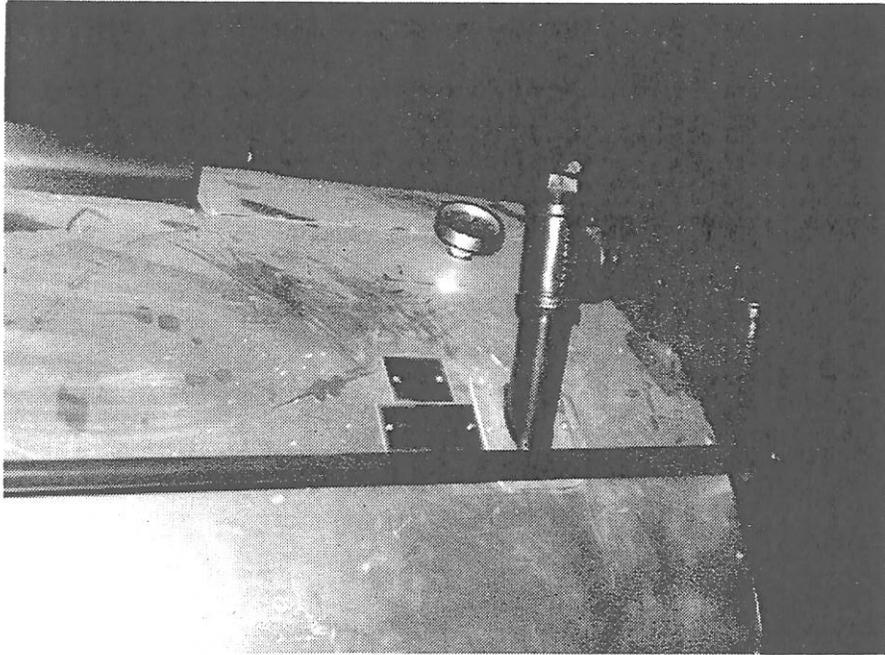
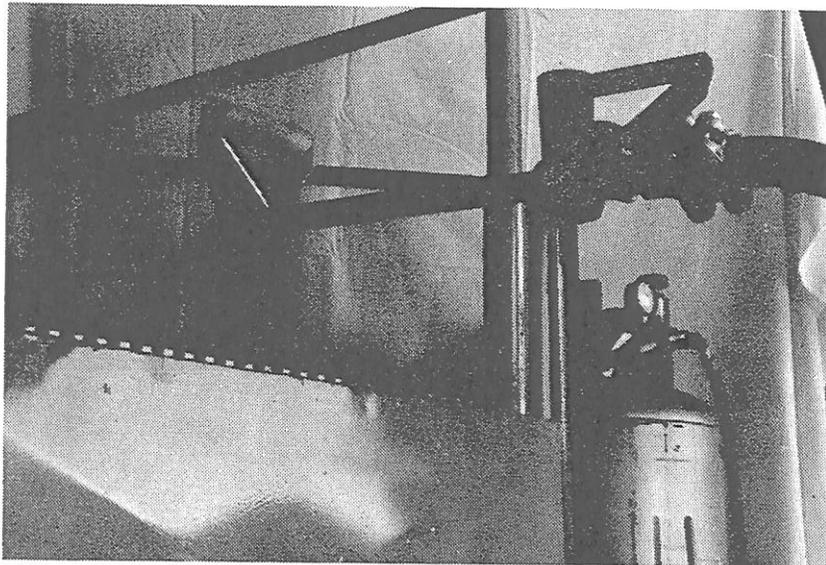

Figure 12 - Sealant Temperature Gauge
Figure 13
- e. When sealant reaches application temperature (refer to sealant manufacturer's recommendation) pumping through applicator nozzle may begin. Thermometer located on top of material tank indicates material temperature. See Figure 12. Thermometer located in 2" line also indicates material temperature, but only when material is flowing thru lines. See Figure 1. Remove hose from heating chamber and place hand applicator in tank opening with hand applicator valve in "on" position. See Figure 13.